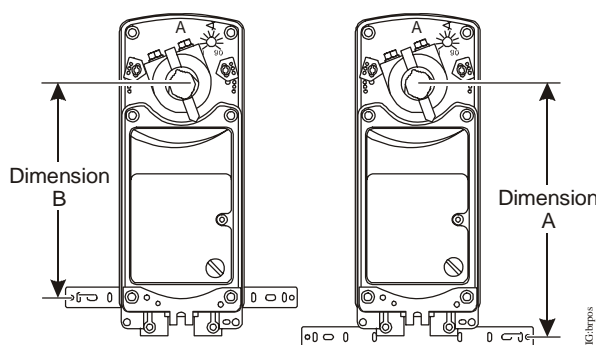

Figure 5: Positioning the Anti-Rotation Bracket
1. See the dimensions in Figure 5 and Table 2 to ensure the correct positioning of the anti-rotation bracket.
3. Drill mounting holes in the damper frame or duct using the anti-rotation bracket as a guide (based on the measurements obtained in Table 2 and Figure 5).